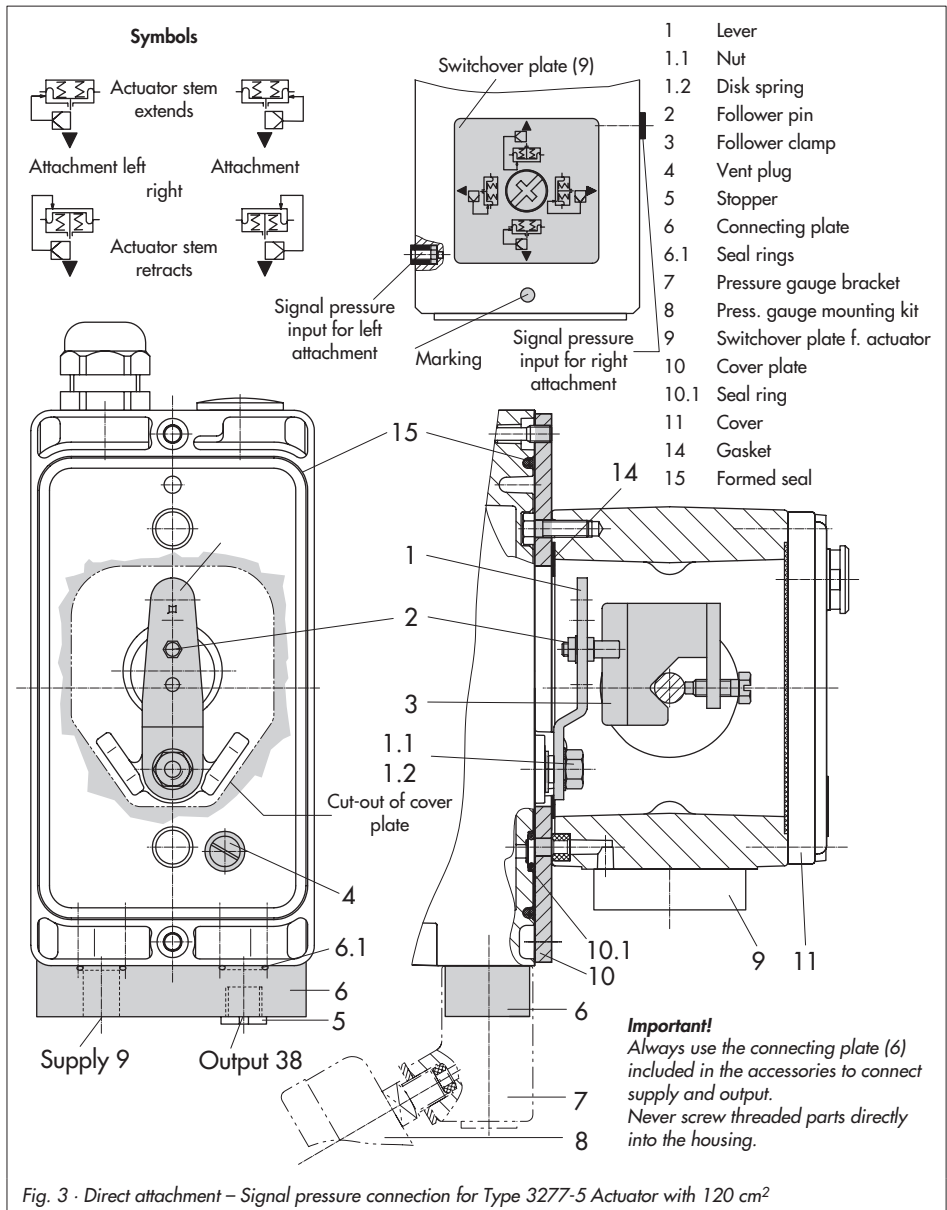

Fig. 3 · Direct attachment – Signal pressure connection for Type 3277-5 Actuator with 120 cm²
1. Mount connecting plate (6) or pressure gauge bracket (7) with pressure gauges onto the positioner, making sure both seal rings (6.1) are seated properly.
2. Remove vent plug (4) on the back of the positioner and close the signal pressure output "Output 38" on the connecting plate (6) or on the pressure gauge bracket (7) with the stopper (5) included in the accessories.
3. Place follower clamp (3) on the actuator stem, align and screw tight so that the mounting screw is located in the groove of the actuator stem.
4. Mount cover plate (10) with narrow side of the cut-out opening (Fig. 3, on the left) pointing towards the signal pressure connection. Make sure that the bonded gasket (14) points towards the actuator yoke.
5. **15 mm travel:** Keep the follower pin (2) at lever **M** (1) on the back of the positioner in the pin position **35** (delivered state).
7.5 mm travel: Remove the follower pin (2) from the pin position **35**, reposition it in the bore for pin position **25** and screw tight.